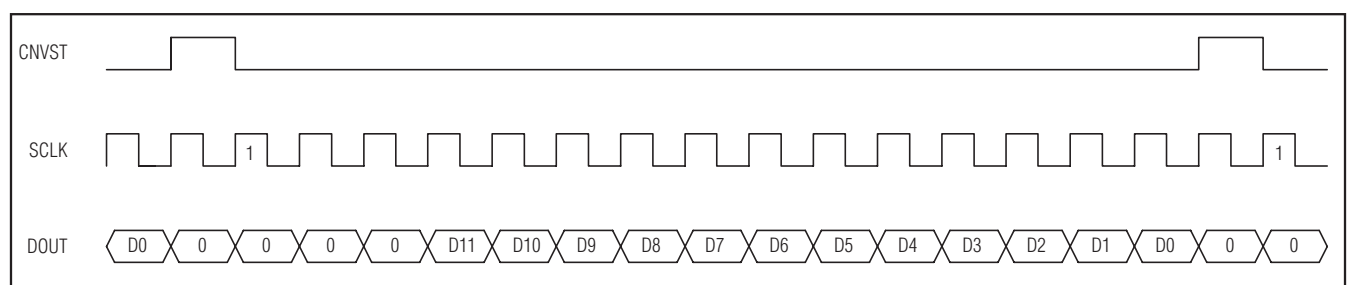
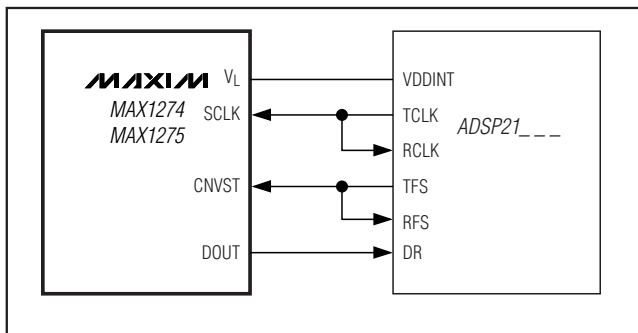

Figure 17. DSP Interface—Continuous Conversion
Figure 19. Interfacing to the ADSP21\_ \_ \_
The MAX1274/MAX1275 can also be connected to the TMS320C54\_ by using the data transmit (DX) pin to drive CNVST and the CLKX generated internally to drive SCLK. A pullup resistor is required on the CNVST signal to keep it high when DX goes high impedance and 0001hex should be written to the DXR continuously for continuous conversions. The power-down modes may be entered by writing 00FFhex to the DXR (see Figures 17 and 18).
The MAX1274/MAX1275 can be directly connected to the ADSP21\_ \_ \_ family of DSPs from Analog Devices, Inc. Figure 19 shows the direct connection of the MAX1274/MAX1275 to the ADSP21\_ \_ \_. There are two modes of operation that can be programmed to interface with the MAX1274/MAX1275. For continuous conversions, idle CNVST low and pulse it high for one clock cycle during the LSB of the previous transmitted word. The ADSP21\_ \_ \_ STCTL and SRCTL registers should be configured for early framing (LAFR = 0) and for an active-high frame (LTFS = 0, LRFS = 0) signal. In this mode, the data-independent frame-sync bit (DITFS = 1) can be selected to eliminate the need for writing to the transmit-data register more than once. For single conversions, idle CNVST high and pulse it low for the entire conversion. The ADSP21\_ \_ \_ STCTL and SRCTL registers should be configured for late framing (LAFR = 1) and for an active-low frame (LTFS = 1, LRFS = 1) signal. This is also the best way to enter the power-down modes by setting the word length to 8 bits (SLEN = 1001). Connect the VL pin to the ADSP21\_ \_ \_ supply voltage when the MAX1274/MAX1275 are operating with a supply voltage higher than the DSP supply voltage (see Figures 17 and 18).